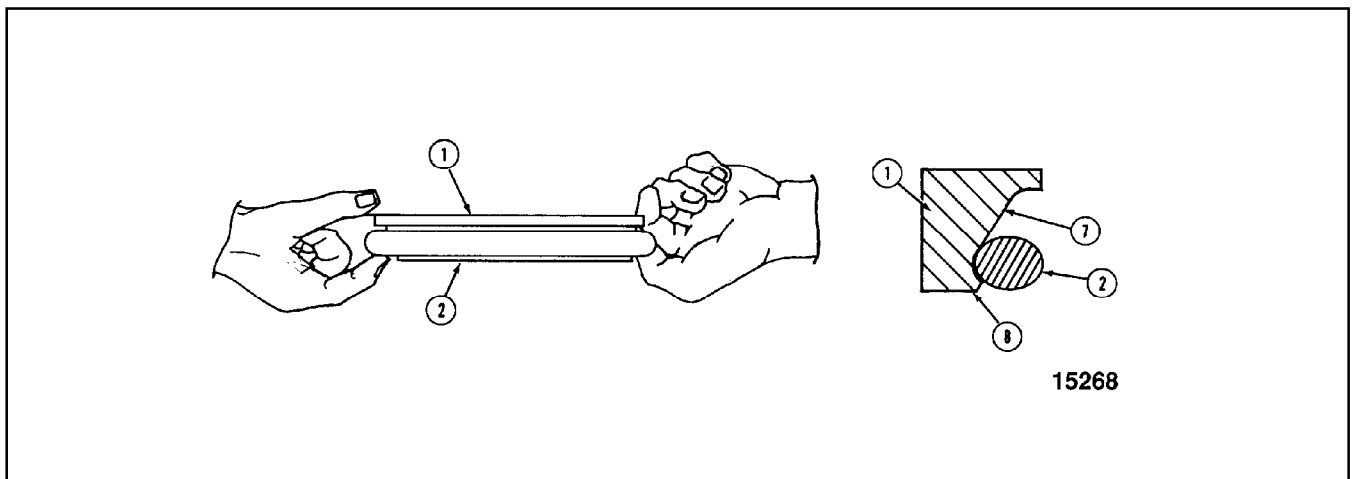

Figure 4
Put toric ring (2 Figure 4) on seal ring (1), at the bottom of seal ring ramp (7) and against lip (8).